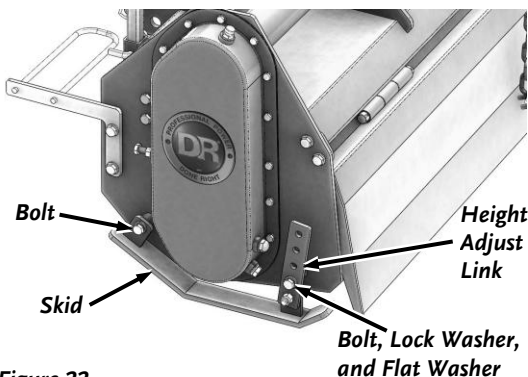

Figure 22
1. Loosen the Bolt at the front of the Skid using an 18mm Wrench (**Figure 22**).